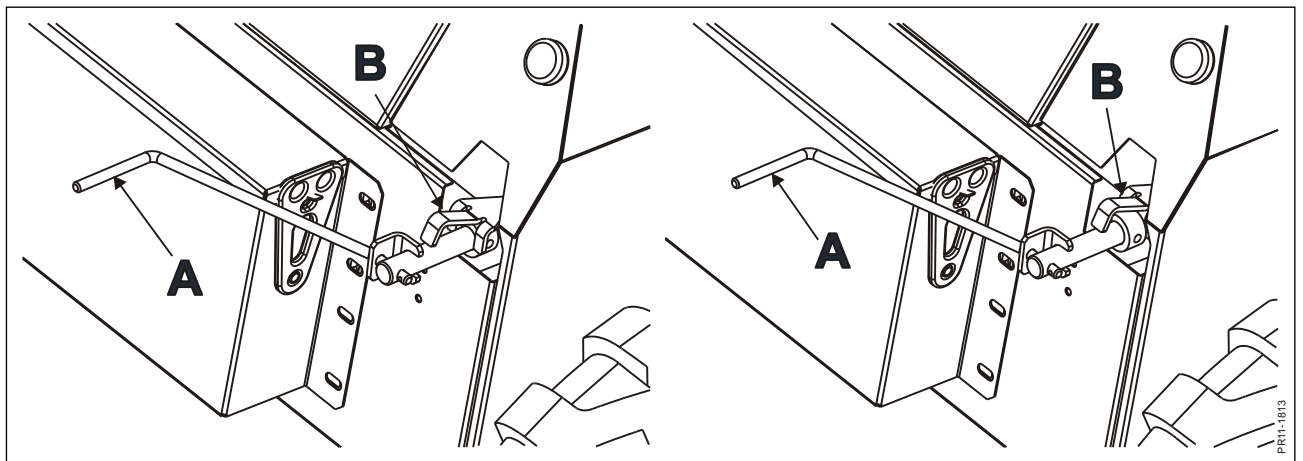

Fig. 3-4
**Fig. 3-4** Tighten the relief springs using spindle **A** until the ground pressure for the pick-up is a maximum of 30 kg. The spindle lock **B** must be pulled out to release the spindle, and pushed in to lock it. Lift the lock to move this. Hold spindle **A** horizontal, so that lock **B** can engage.